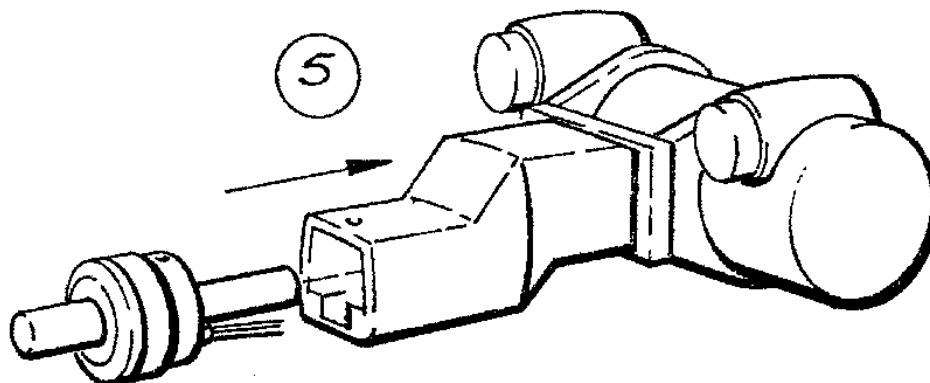

Fig 14. REMOVING TUBE HOLDER
Remove screws (3) and (4) from top and bottom of casting as indicated in Fig 13 and withdraw the tube holder assembly straight out as indicated in Fig 14.